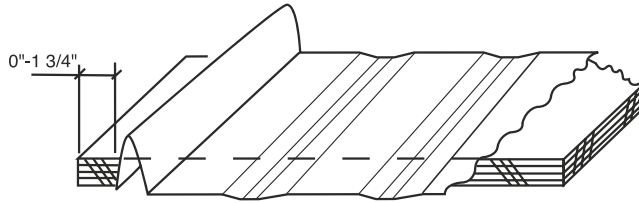

Figure 1
1. Align the female edge of the first panel with the chalk line that was snapped at the rake edge. This line can be 0" - 1 3/4" from the rake. Panel should overhang eave 1". See Figure 1.